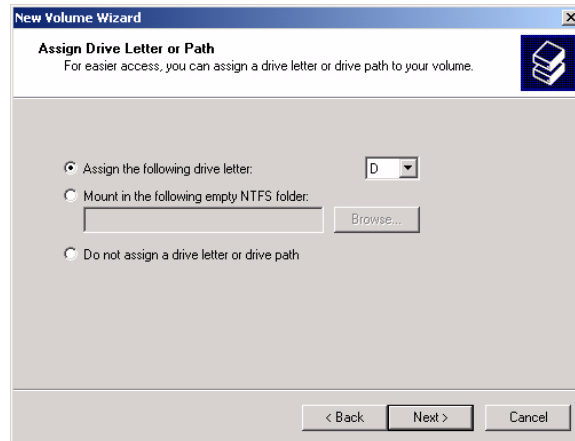

FIGURE 6-25. New Volume Wizard - Assign Drive Letters or Path Screen.
3. The *New Volume Wizard - Assign Drive Letter or Path* screen appears. Change the drive (array) letter, as desired. Click **NEXT >**. See Figure 6-25.